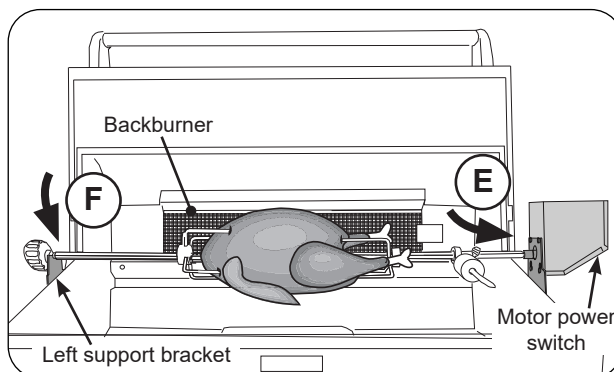

Fig. 35-4 Attach Rotisserie rod to motor
10. Insert the pointed-end of the rod into the motor drive socket (see Fig. 35-4, E). Then rest rod groove (next to the knob) into the left support bracket (see Fig. 35-4, F).